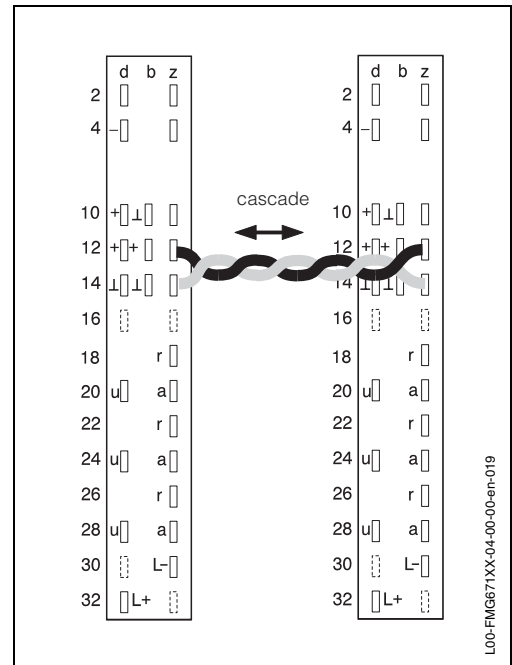

Fig. 5.4 Wiring of cascade interface z12, z14
- for extended range, the slave detector is above the master detector for mounting possibilities see Fig. 5.4.